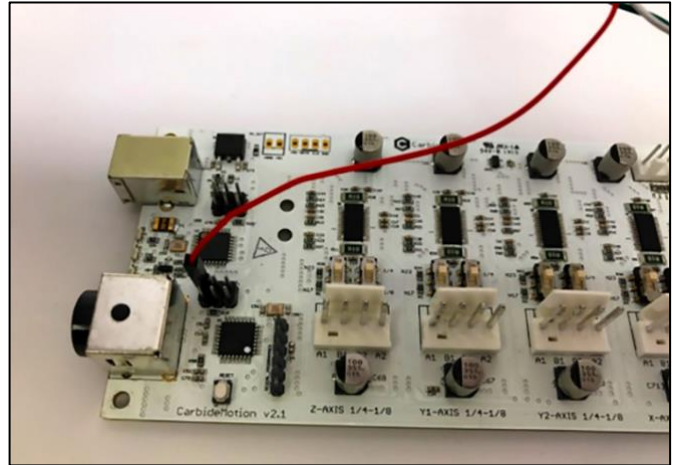

Figure 10
2. Connect the red wire (+5V) to the upper-left pin on the *AVR PROGRAMMING* label as shown in **Figure 10**.